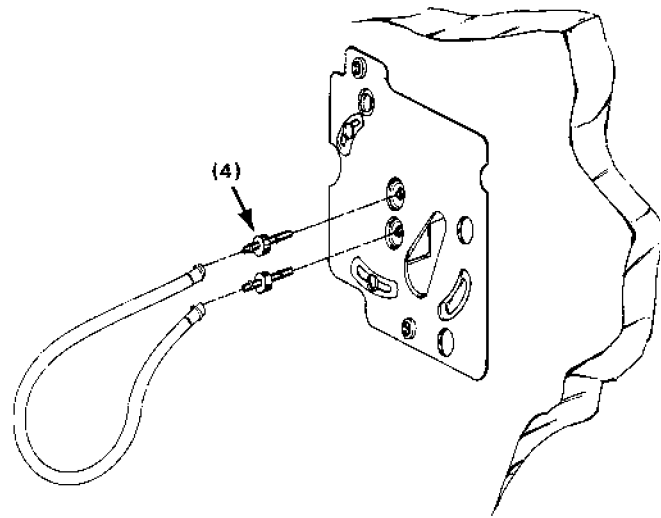

Figure-16
Leave pipe head attached to wall. Push the long ends of adaptors (4) into the air line connections on pipe head, Figure-16.